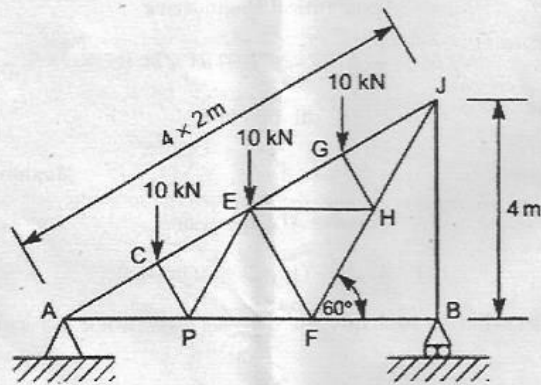

Fig. 11(a)
11. (a) Determine the force in the members of the truss shown in the figure.11 (a). Also state the nature of forces in the member of the given truss.